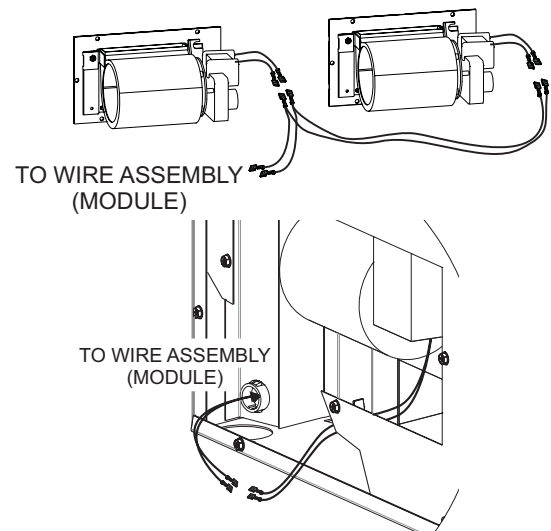

Figure 12
7. Remove protective connectors on Wire Assembly from fireplace and discard. Connect Wire Harness to both blowers and the other end to the Wire Assembly supplied with the fireplace. **See Figure 12.**